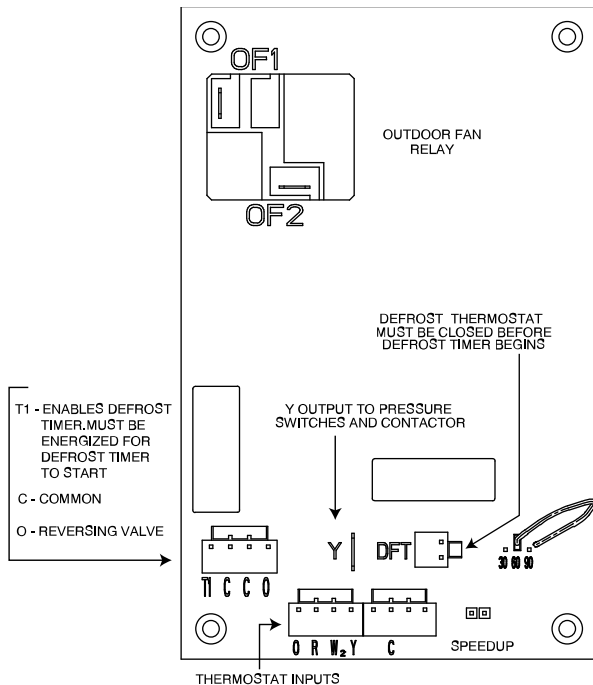

Fig. 8 – Defrost Control
4. Jumper between DFT and R terminals on control board as shown in Fig. 8.